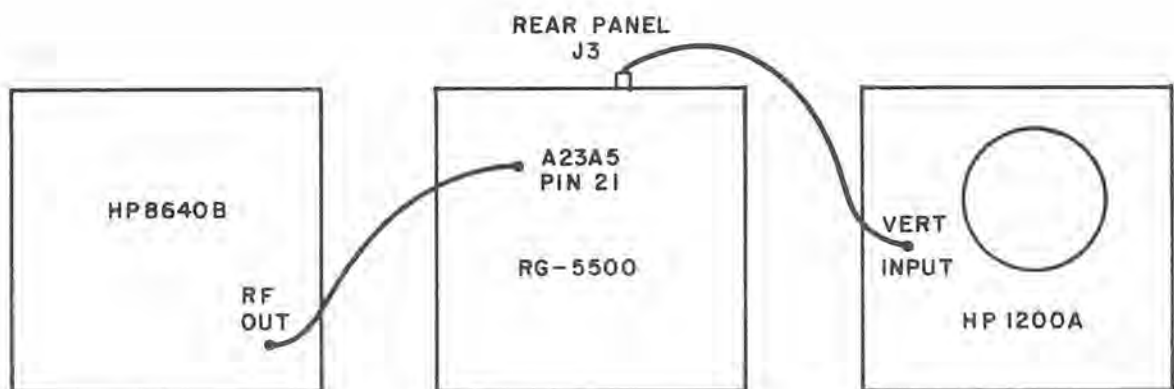

Figure 5-1. A23A5 21.4 MHz Output Amplifier Alignment Test Setup
- (1) Remove A23 IF assembly top and bottom covers.
- (2) Apply ac power to receiver.
- (3) Remove four A23A1-A4 bandpass amplifiers from assembly noting their original locations.
- (4) Connect test equipment as shown on figure 5-1.
- (5) Set signal generator output level to -40 dBm.
- (6) Set receiver RF/IF GAIN adjust on front panel fully clockwise and push AM MAN mode selector.
- (7) Set oscilloscope sensitivity to 0.2V/cm in dc coupled mode.